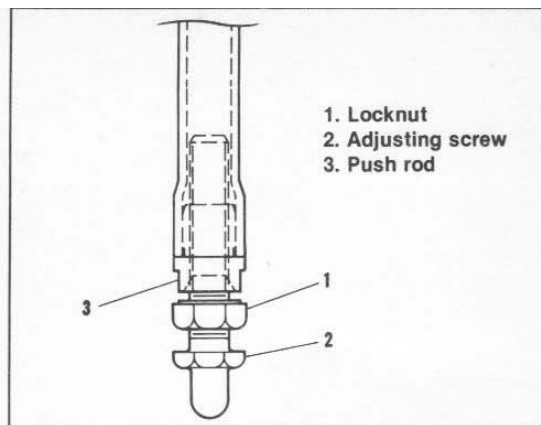

Figure 3-7A. Push Rod Adjustment
4. See Figure 3-7A. Turn one push rod adjusting screw (2) downward until the ball end of rod is seated in hydraulic lifter and has just no noticeable shake. Hold the push rod flats (3) with one wrench to keep rod from turning and with a second wrench turn the adjusting screw down slowly until all noticeable shake is taken up. Turn it downward until push rod bottoms then turn it up exactly $1\frac{1}{2}$ turns. Lock the adjustment by turning locknut (1) against push rod and tightening the locknut to 10 ft-lbs torque. Repeat for the other front cylinder push rod.